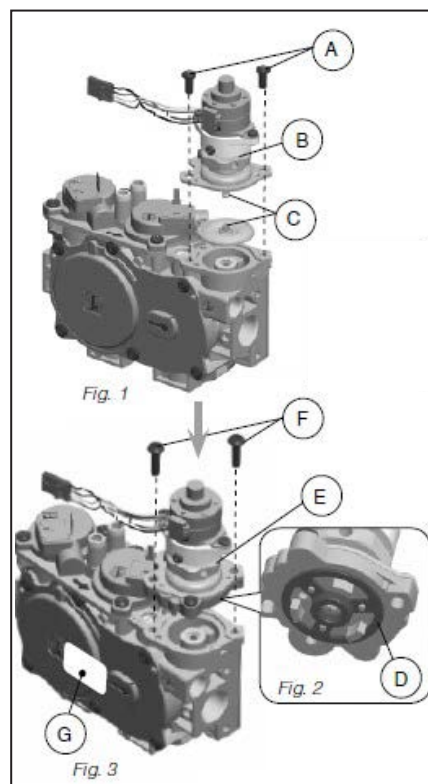

Figure 43: SIT Valve Conversion
10. Convert the SIT gas valve (Figure 43):